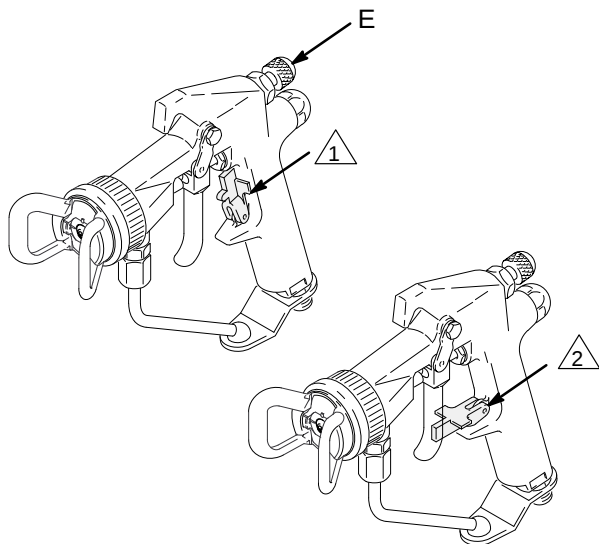

Fig. 3
1. The fan pattern valve (E) can be used to reduce the pattern by about 25% of the total pattern width. As the valve is opened, the pattern will reduce slightly. The tip used designates the total width of the spray pattern.
2. To unlock the gun trigger safety, turn the safety so it is parallel with the trigger. To lock the gun trigger safety, turn the safety to a right angle with the trigger. See Fig. 3.